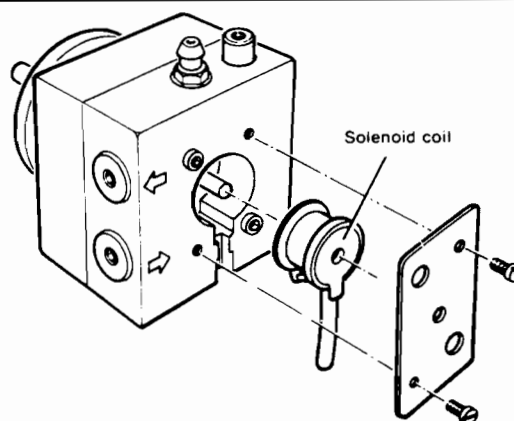

Fig. 5
- 6.11. Remove the solenoid valve cover from the pump, Fig. 5, and withdraw the solenoid coil.